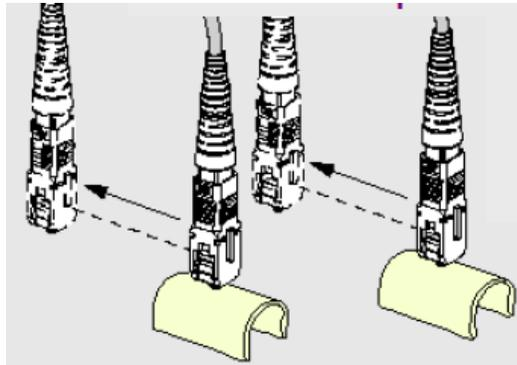

Figure 19-12: Cleaning the Connector Endface
5. Clean the tip of the connector by gently swiping the end face in one direction only along the wipe. See Figure 19-12.